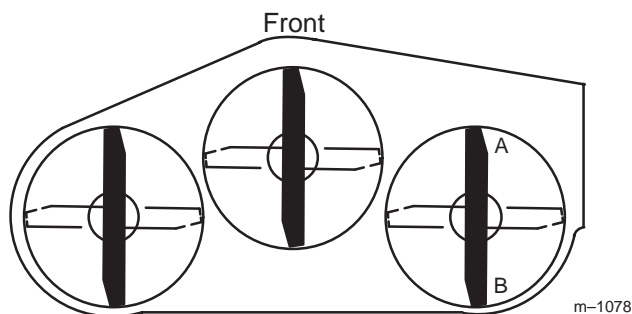
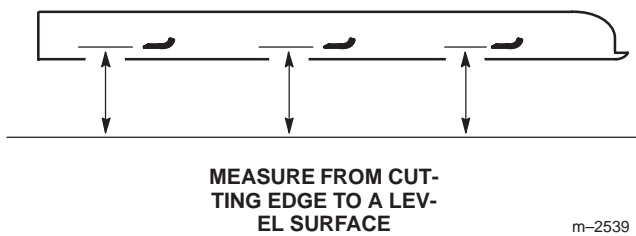

Figure 68
Figure 69
- Position the **right** blade front-to-rear (Fig. 68).
- Measure the right blade at the **A** location (Fig. 68), from a level surface to the cutting edge of the blade tip (Fig. 69).
- Measure the right blade at the **B** location (Fig. 68), from a level surface to the cutting edge of the blade tip (Fig. 69).
- The mower blade should be a **1/4 to 3/8 inch (6 to 10 mm) lower at position A than at position B** (Fig. 68). If it is not correct, proceed to the following steps.